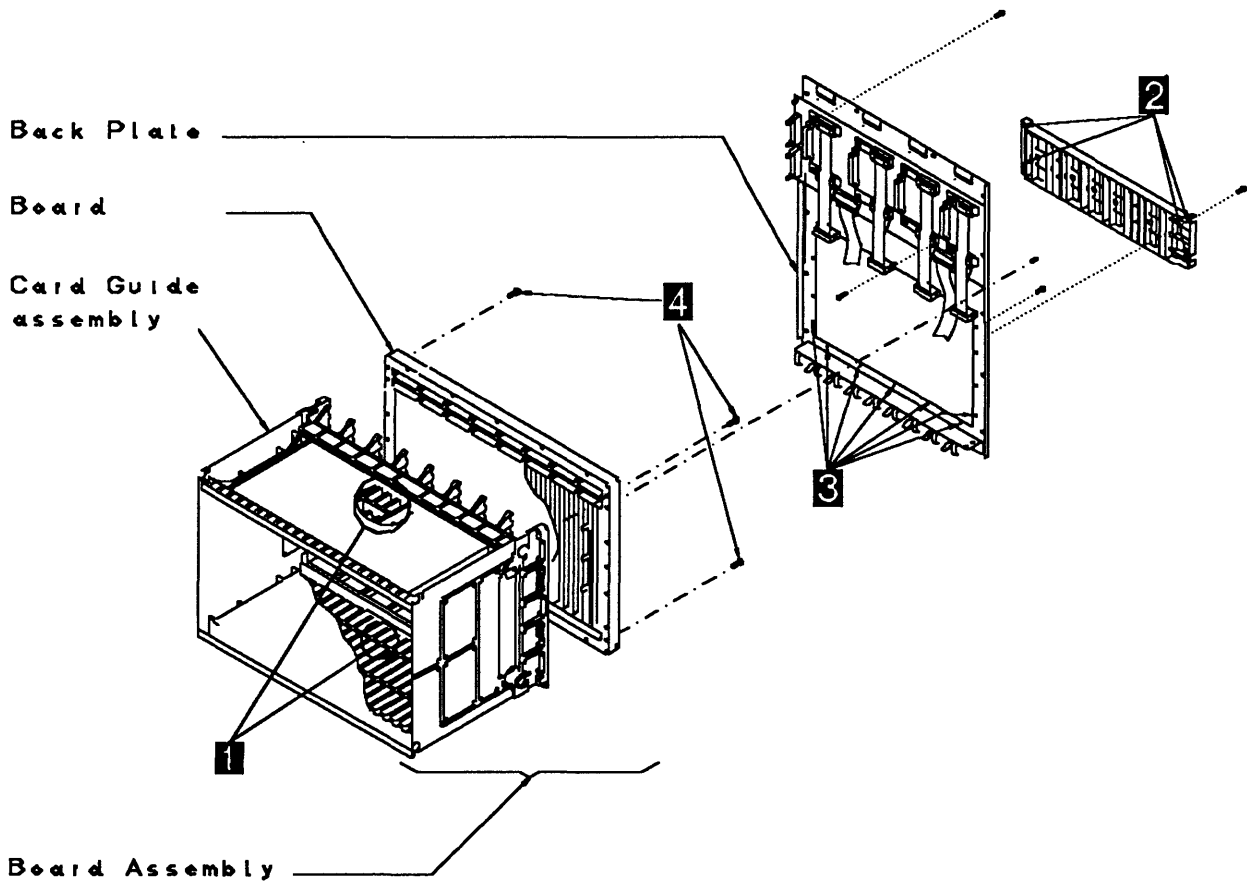

Figure 5-130. Board Assembly
19. Refer to Figure 5-130. At the front of the board, loosen the brackets **1** which maintain the flat cables at the top and bottom of the board (rows 'Y' and 'Z'). Remove those cables from the board.
- a. Refer to Figure 5-130.
1. Attach the card guide assembly to the new board using the 4 screws **4**. Refer to Figure 5-130 on page 5-125.
3. Refer to Figure 5-130 on page 5-125. Ensure that there are no bent pins on the board. At the back of the channel board, re-install the 4 screws **2** which hold the cable retainer to the board assembly taking care that the retainer is located correctly.